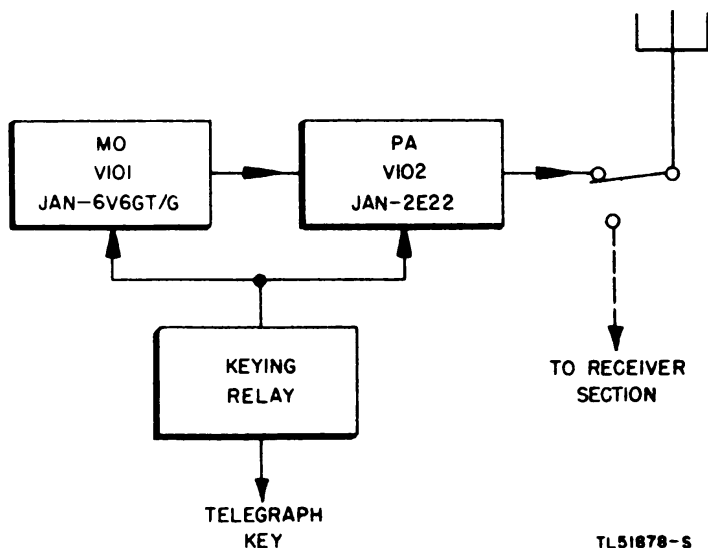

Figure 33. Transmitter section, block diagram.
The crystal-controlled master oscillator (fig. 33) establishes the r-f signal frequency on which the transmitter operates. This signal is fed to the p-a stage where the signal is amplified and is then applied through the antenna switch to the antenna. A keying relay is provided under control of a telegraph key inserted in the KEY jack on the receiver-transmitter front panel. When operated, this relay applies plate and screen voltage to the oscillator stage, and applies screen voltage to the power amplifier. Therefore, operation of the telegraph key causes the transmitter to function and the c-w carrier to be radiated.
b. Block diagram of the transmitter (fig. 33).